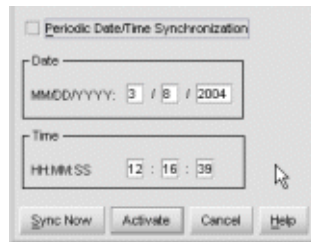

Figure 25: Configure Date and Time dialog box
1. At the **Hardware View**, choose **Configure > Date/Time**. The Configure Date and Time dialog box displays, as shown in Figure 25.